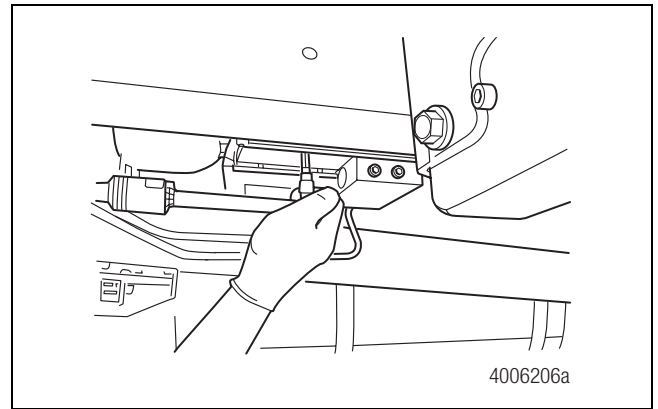

Figure 5
2. Insert the pump retaining plug into the threaded hole. Use a 6 mm hex-head socket wrench to tighten the plug to 195 ± 18 in-lb (22 ± 2 N•m). Figure 5. ⚠